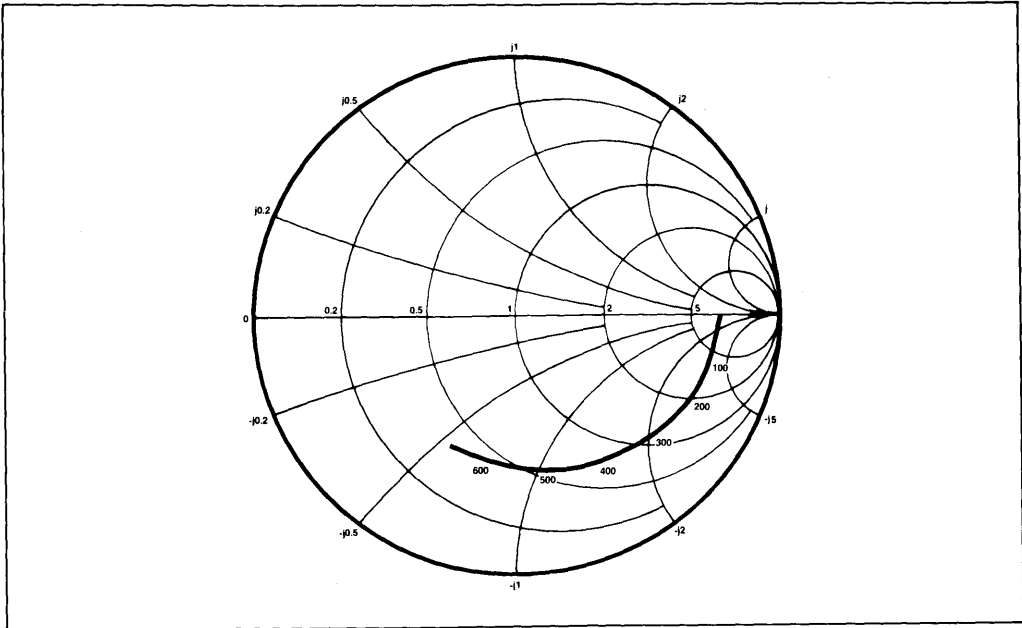

Fig.5 Typical input impedance. Test conditions: supply voltage 5V, ambient temperature 25° C, frequencies in MHz, impedances normalised to 50 ohms.
7. Input impedance is a function of frequency. See Fig. 5.